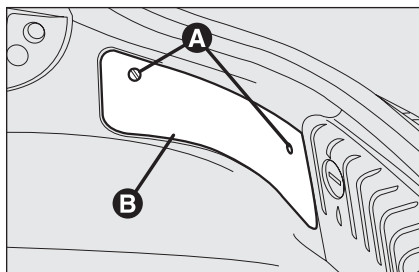

fig. 30
To change these bulbs, open the boot, operate devices **A-fig. 30** and remove the lid **B**.
- ☐ open the boot and the lid as described previously (see **fig. 30**);